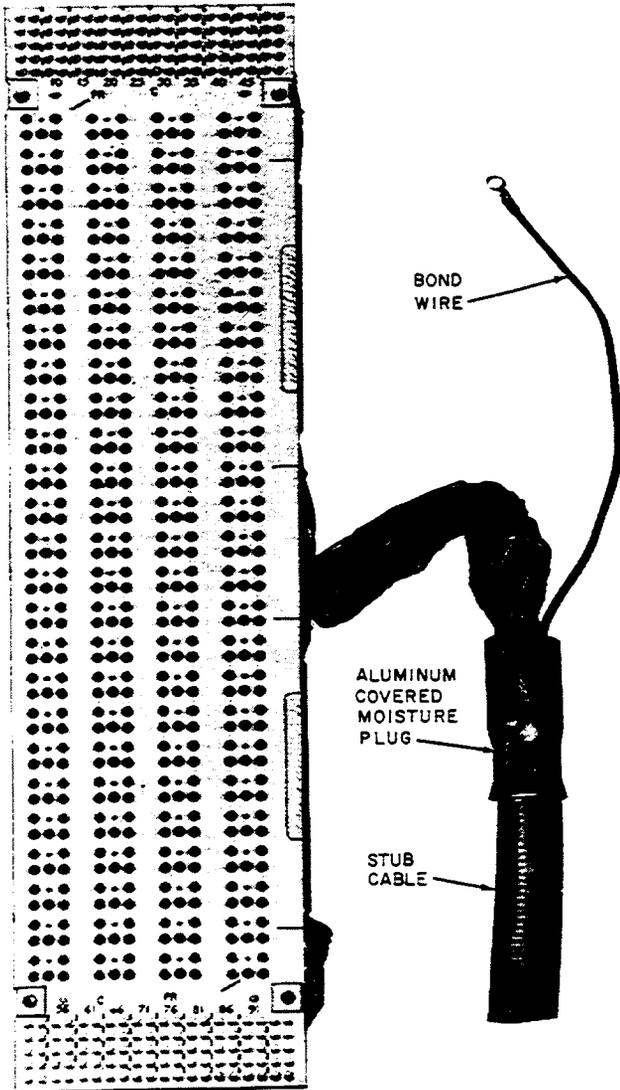

Figure 1—302-Type Connector for use on Modular Protector Frame
2.01 The 302-type connector (Figure 1, 2, and Table A) is a molded plastic panel 16-1/4 inches high. The connector has 100 groups of 5-pin terminals that accept 3-, 4-, and 5-type protector units (ordered separately). Four of the terminals (tips and rings) are gold plated. The fifth terminal (center) is solder plated and provides a ground connection. A sixth hole (blind) is provided for inserting designation pins.